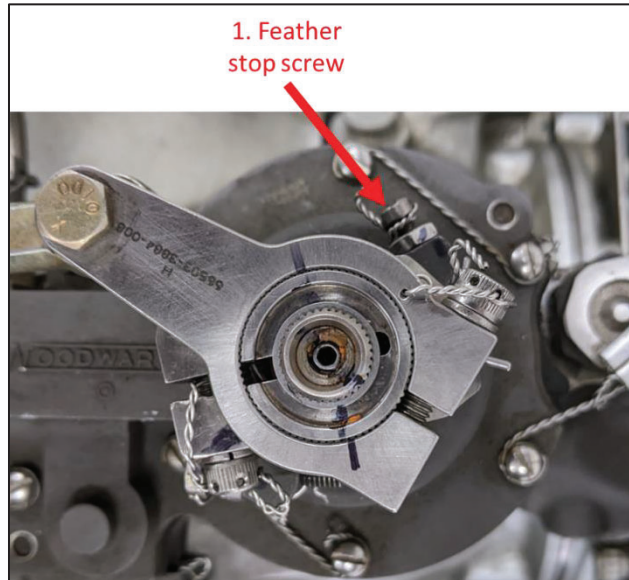

Figure 3: CSU components, top view
- (14) While still holding the assembly with the Allen key, turn the max NP stop screw clockwise until contact is made with governor propeller speed control lever skirt. Torque the jam nut 33-38 IN-LB. Do not safety the screw yet.
- (15) Turn the feathering lift rod one turn clockwise (as viewed from above) with the Allen key.
- (16) Remove the safety wire from the feather stop screw (Figure 3, item 1), loosen the jam nut, and turn the screw clockwise 2 ½ turns. Torque the jam nut 33-38 IN-LB. Do not safety the screw yet.
- (17) Rig the propeller speed control linkage according to the Kodiak Airplane Maintenance Manual. Rigging is listed in Chapter 76. Torque the governor speed control lever retaining screw to 33-38 IN-LB prior to safetying.